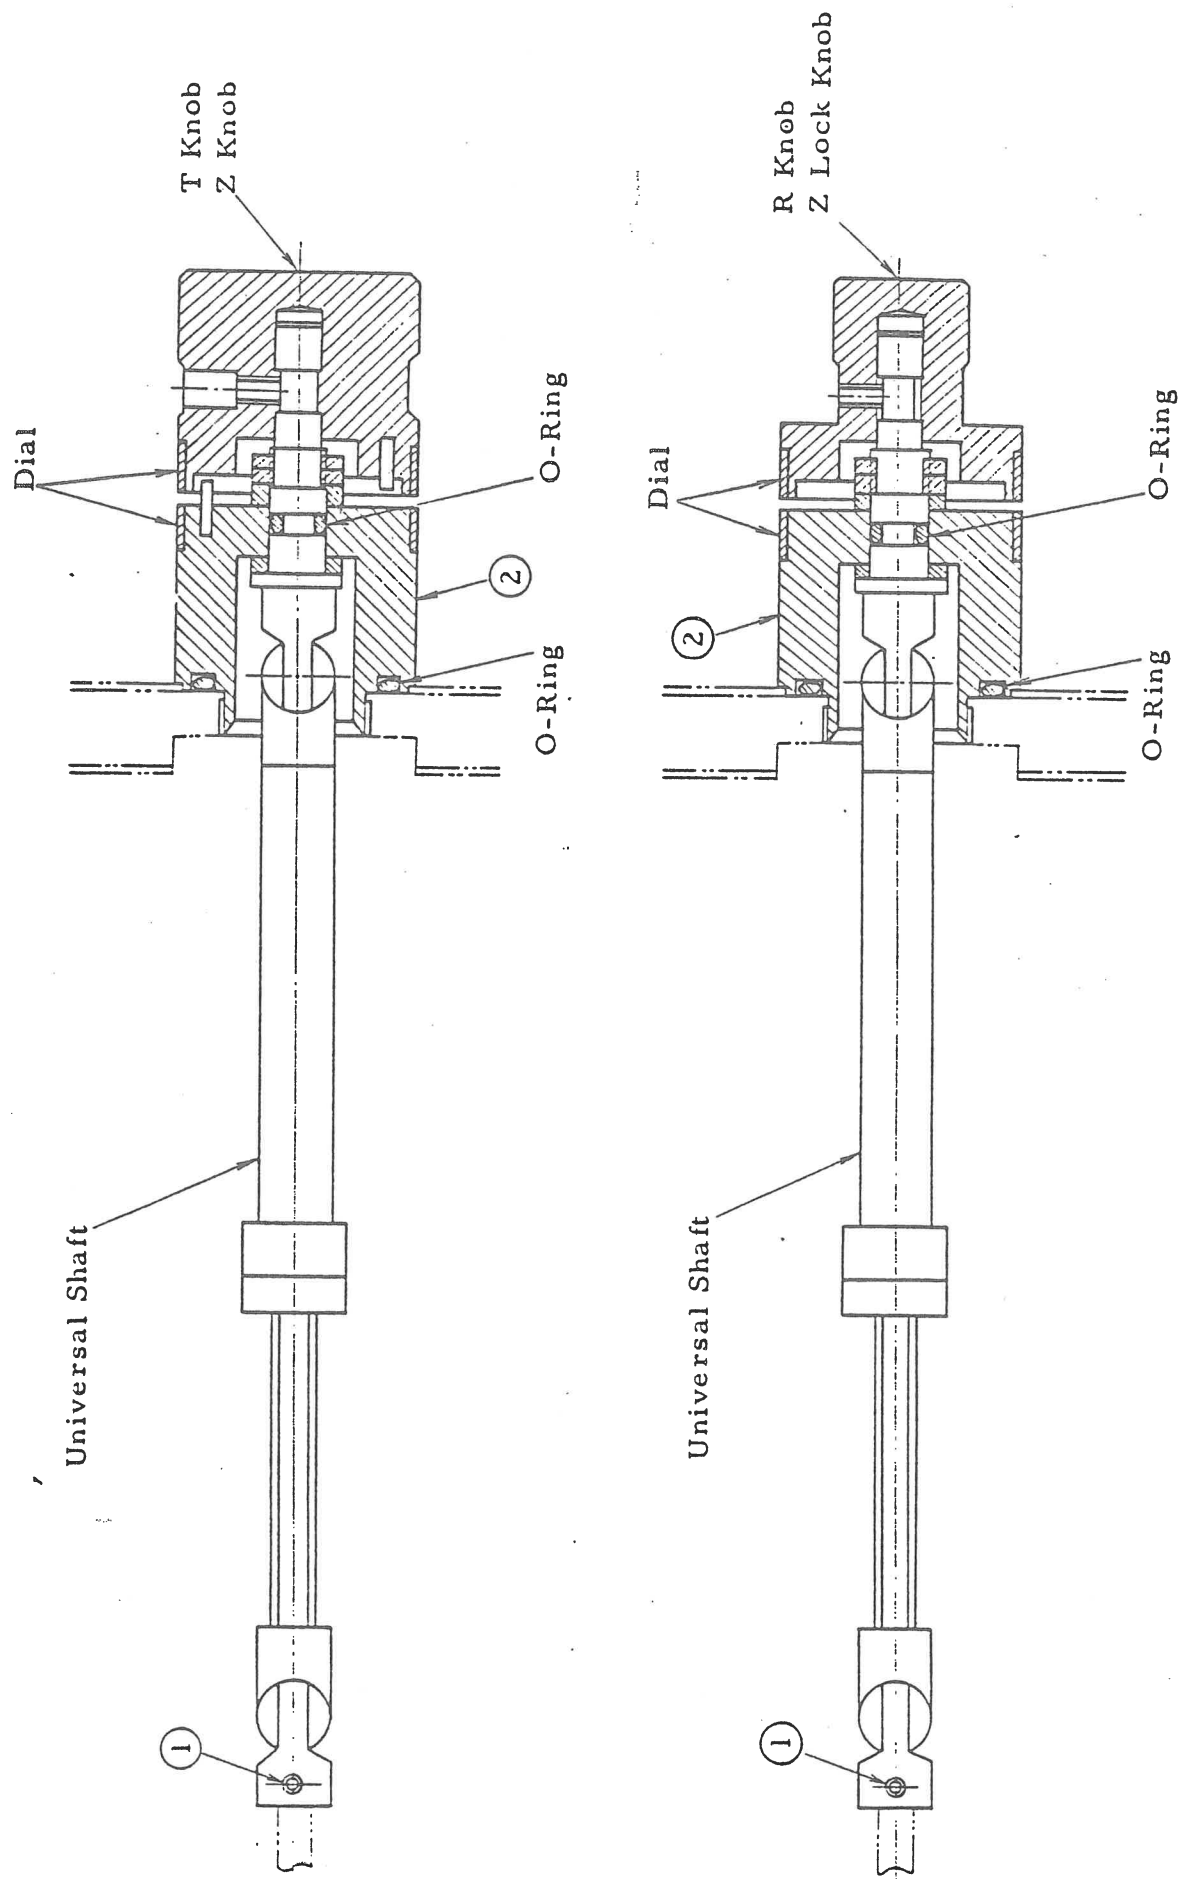

Fig. 4-15 Construction of T, R, Z, and Z Lock Knobs and Drive Shaft
- 1) Loosen two screws (1) (Figs. 4-15 and 4-16) at the tip of each knob drive assembly.
- 2) Turn knob base (2) (Fig. 4-15) counterclockwise.